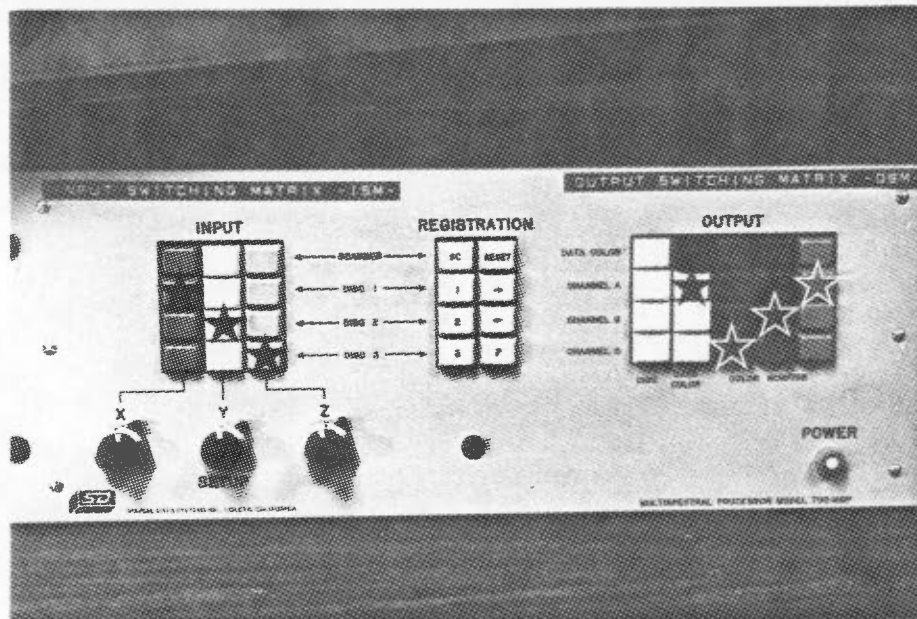

FIGURE 10.3. MSP-Left Chassis-Final Button Configuration for a colour composite.
7. To produce a colour composite similar to a colour infrared (CIR) image, push the **RED** button on the CHANNEL C row, **GREEN** on CHANNEL B row and **BLUE** on CHANNEL A on the OSM (Figure 10.3). The CIR image will occur if band 4 is on M1 and band 5 is on M2 and band 7 is on M4.